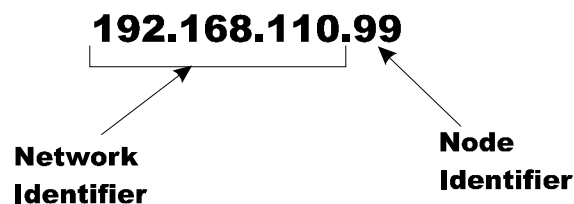

FIG. 91: IP ADDRESS CONFIGURATION
you will have to create an IP address for your laptop that includes the first three octets. An octet consists of a 3 digit number between 0 and 255. An IP address consists of 4 octets. The first three (3) octets identify the network. The 4th octet is the identifier for the individual node. (See Fig. 91)